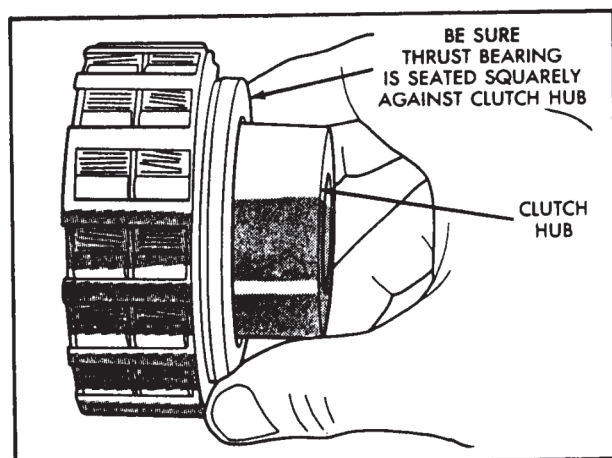

Figure 7
9. Install thrust bearing on overrunning clutch hub, as shown in Figure 7, and retain with liberal amount of Trans-Jel (See Figure 7). Be sure bearing is seated Flat against hub (See Figure 7).